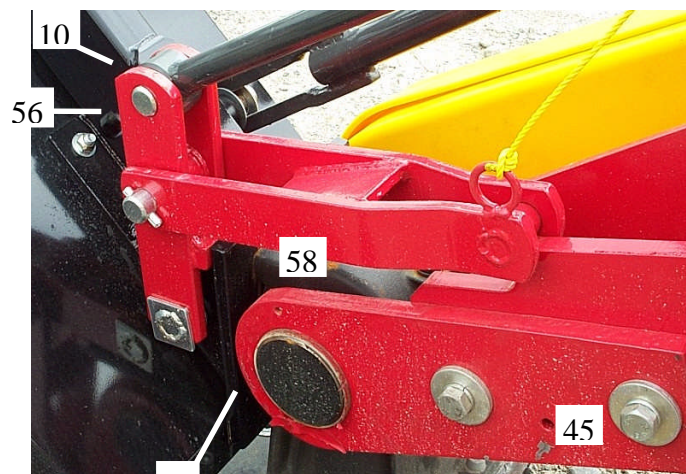

Figure 3 - Top and bottom link with ram
4. Unpack the headstock and remove the pivot plate (item 45) from the main beam. The headstock should be supported by blocks of wood to keep the belt cover clear of the ground.
5. Attach the headstock to the cutterbar by bolting the pivot plate (45) back into position so that the gearbox is held between the plate on the main beam and the pivot plate. Ensure that the two large nylon bushes (44) are in place. Refer to Figure 3.
7. Lift the top link (58) clear and elevate the headstock until the end of the spring tube aligns with the pin on the cutter bar beam.
8. Attach the spring to the pin as shown below, with a washer on each side and secure with an 8x40 tension pin (8).